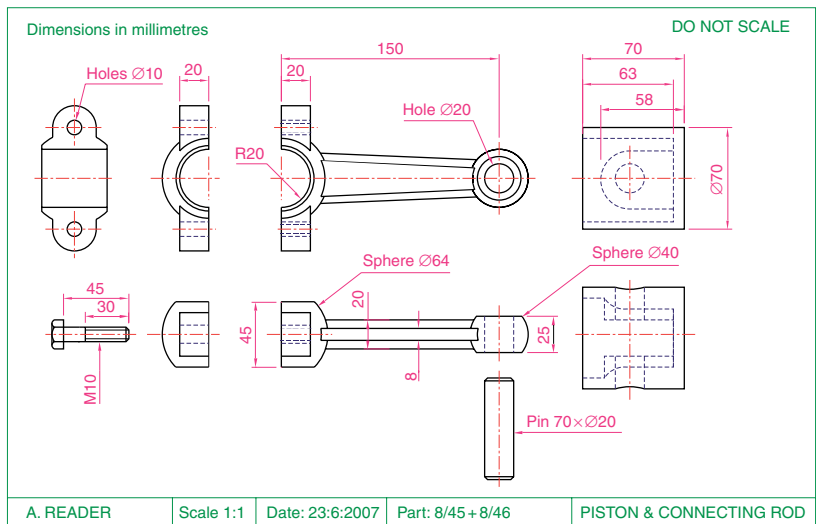
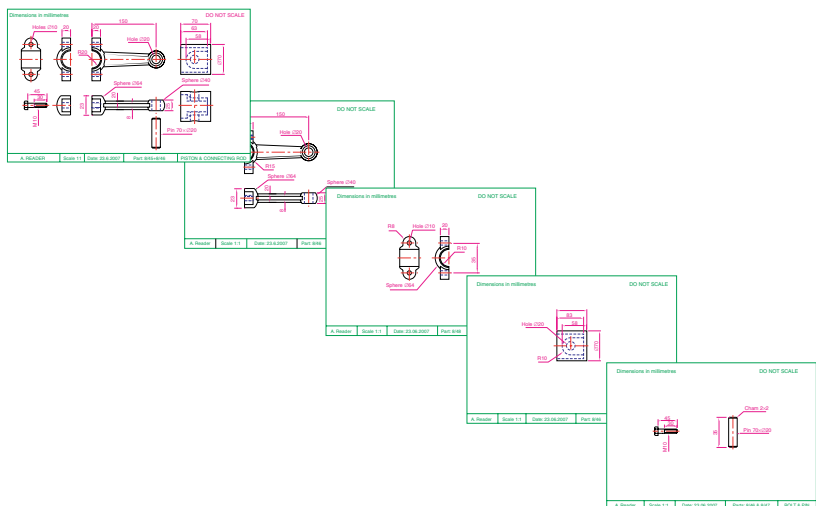

Fig. 11.15 Exercise I – the exploded orthographic projection
Fig. 11.16 Exercise I – the five drawings in the sheet set
1. Fig. 11.15 is an exploded orthographic projection of the parts of a piston and its connecting rod. There are four parts in the assembly. Small drawings of the required sheet set are shown in Fig. 11.16.
Construct the drawing in Fig. 11.15 and also the four drawings of its parts. Save each of the drawings in a **Layout1** format and construct the sheet set which contains the five drawings.